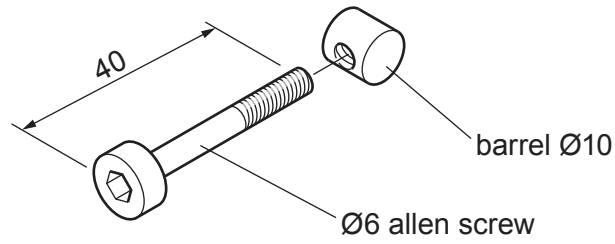
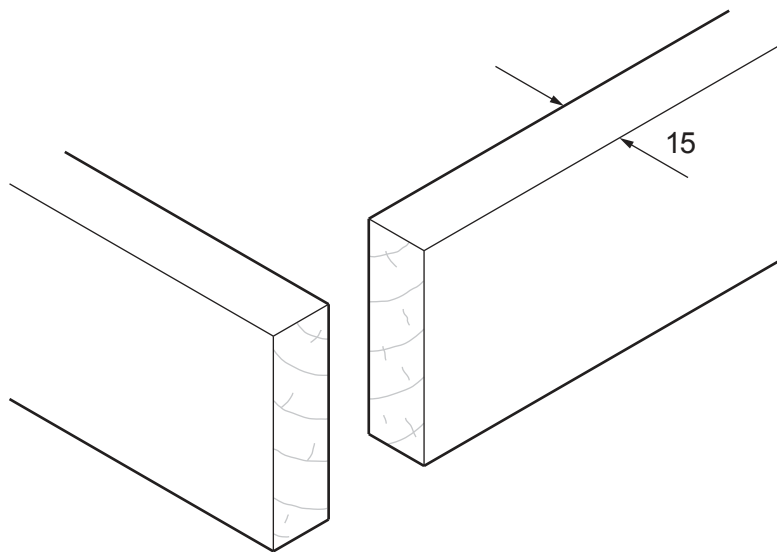

Fig. 9.1
Fig. 9.2
9 Fig. 9.1 shows details of a knock-down (KD) fitting.
Fig. 9.2 shows the corner of a small wooden box.
Add sketches to Fig. 9.2 to show how a corner joint could be made using the knock-down (KD) fitting shown in Fig. 9.1. [2]